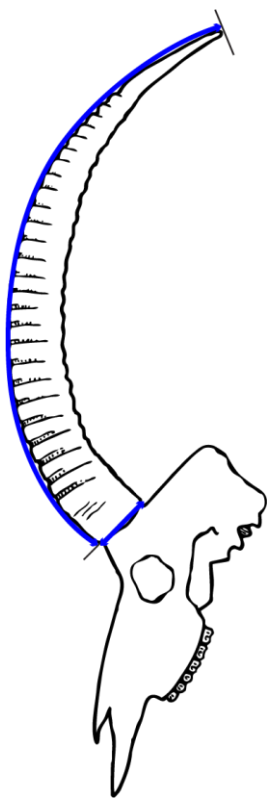

Figure 1 Roan
1. Length. Measure the length of each horn on the front curve, in the center of the horn, from the lowest edge of the base to the tip. (Figure 1, 2, 3) If the tip is broken and the tape does not come to the end of the horn before the break starts, the broken or worn end must be carded off. (See carding off in General Instructions.)